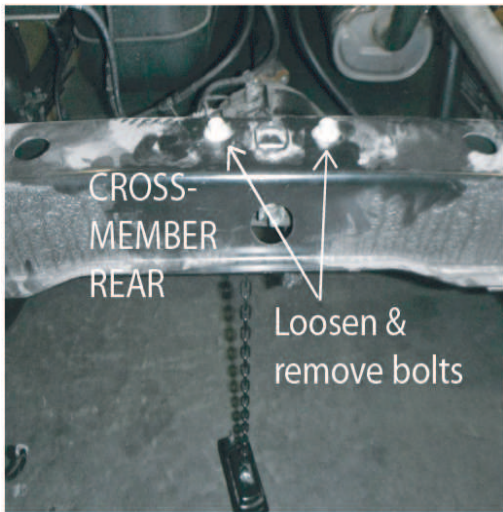

FIGURE 1
1. Remove spare wheel and spare wheel winch (loosen two bolts). (Refer Figure 1.)